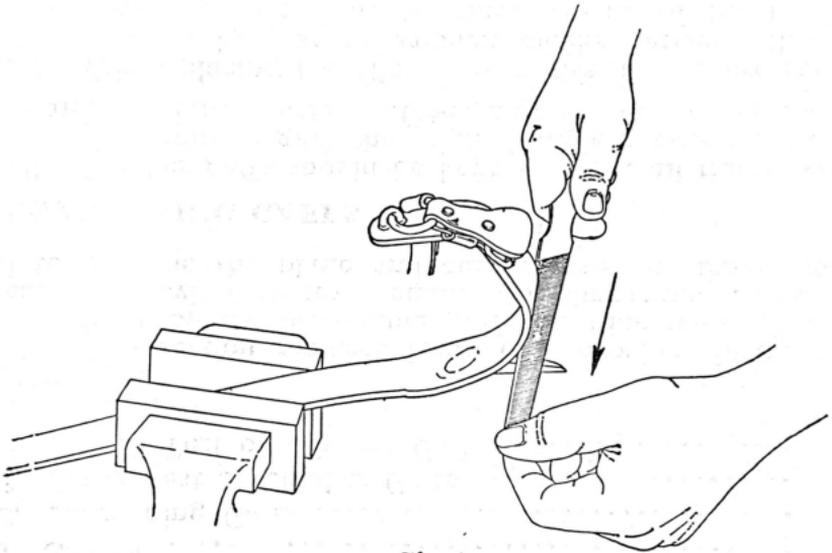

Fig. 1
2.04 When sharpening a gaff, begin by filing on the inner surface, not including the point, until the gaff meets the thickness requirements given in Section G80.801.3, Part 4. Use the C Gaff Gauge for checking these dimensions. File the gaff as shown in Fig. 1 using a forward movement parallel to the surface being filed, using strokes at right angles to the long dimension of the gaff. Do not allow the file to rock over the gaff as this will result in rounded edges.